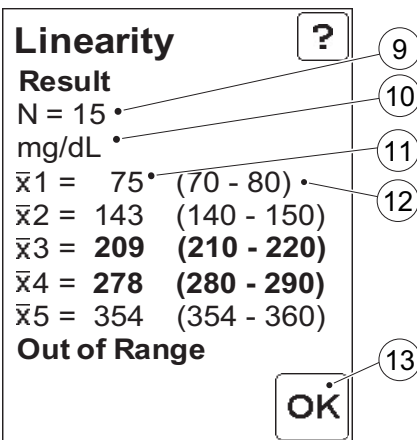

FIGURE 7-16
- To browse through the available records, use the scroll bar arrows (4).
- To view statistics for the linearity test, press the Statistics button (7). FIGURE 7-16 will be displayed.